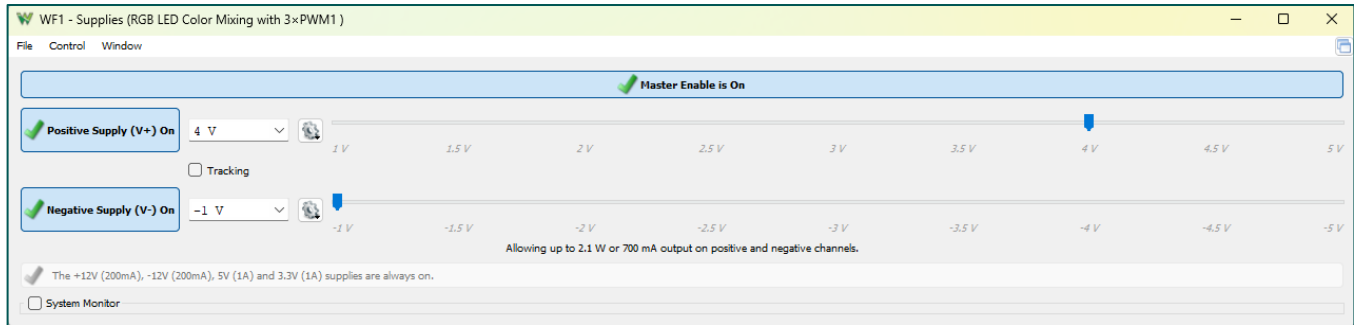

Figure 4c. Analog Discovery Studio – Supplies Interface with Positive Supply Set to 4 V
- **Positive Power Supply V+ = 4 V** → Blue LED branch (**Figure 4c**)